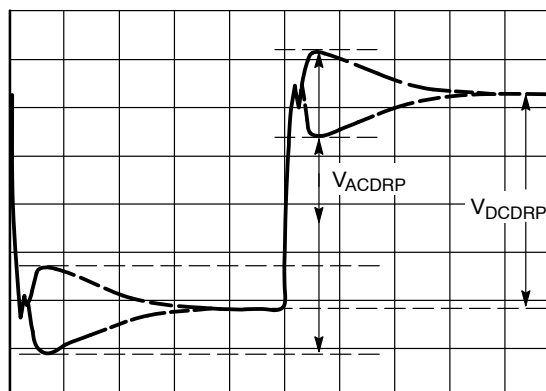

Figure 35. AC Load Line Waveform
5. The resulting waveform will be similar to that shown in Figure 35. Use the horizontal cursors to measure V_{ACDRP} and V_{DCDRP} , as shown in Figure 35. Do not measure the undershoot or overshoot that occurs immediately after the step.